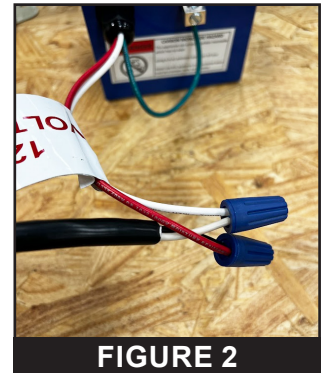

FIGURE 2
7. Connect both conductors, and the ground wire, to the corresponding wires in the junction box or transformer. See **FIGURE 2**.